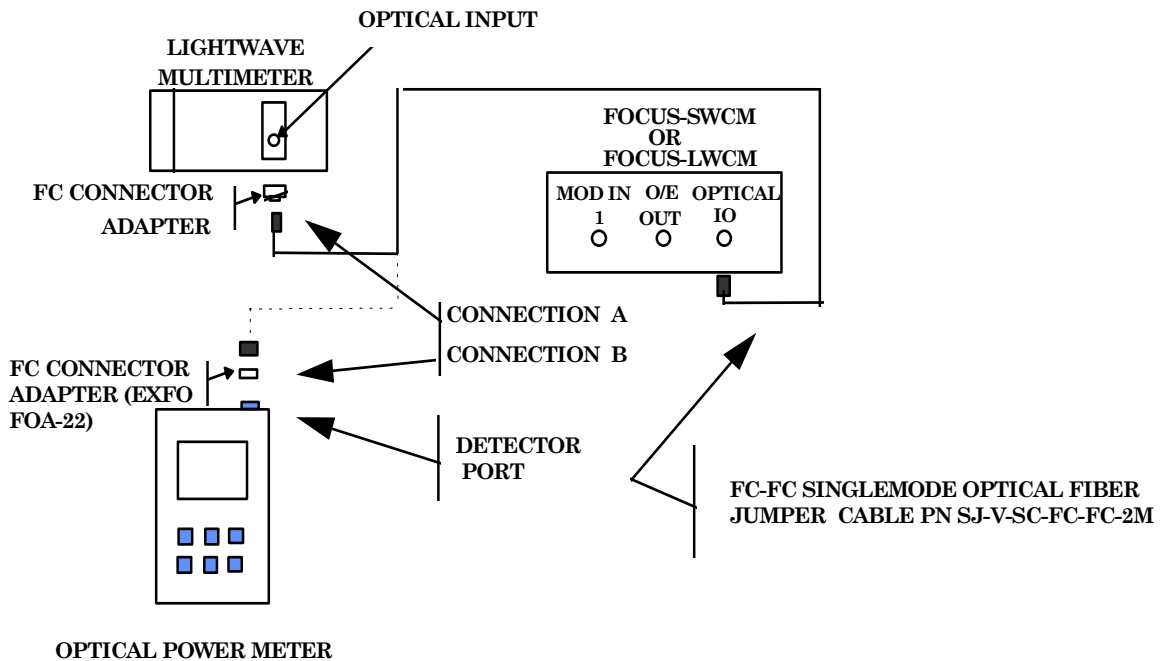

Figure 1. Optical Power Meter test setup.
- (1) Connect equipment as shown in figure 1, CONNECTION A. Connect optical fiber jumper cable from FOCUS-SWCM OPTICAL I-O to FC CONNECTOR ADAPTER attached to OPTICAL INPUT of LIGHTWAVE MULTIMETER (fig. 1).
- (2) Set lightwave multimeter to measure optical power in dBm at 850 nm wavelength.
(3) Adjust FOCUS-SWCM **VAR ATTN 1** knob for **-10.00 dBm** indication on lightwave multimeter display.
(4) Remove cover from OPTICAL POWER METER DETECTOR PORT (fig. 1).
(5) Carefully remove optical fiber jumper cable connector from lightwave multimeter and connect to OPTICAL POWER METER DETECTOR PORT, CONNECTION B (fig. 1).
(6) Press OPM **λ select** pushbutton as necessary to set wavelength to 850 nm.
(7) Press OPM **dBm/W** pushbutton if necessary to measure dBm.
(8) Optical power meter will indicate between -09.65 and -10.35 dBm; if not, perform **b** below.
(9) Press and hold **ref** pushbutton for **00.00** indication on display.
(10) Carefully remove optical fiber jumper cable connector from OPTICAL POWER METER DETECTOR PORT (fig. 1) and connect to LIGHTWAVE MULTIMETER (fig. 1).
(11) Adjust FOCUS-SWCM **VAR ATTN 1** knob for **-15.00 dBm** indication on lightwave multimeter display.
(12) Carefully remove optical fiber jumper cable connector from LIGHTWAVE MULTIMETER (fig. 1) and connect to OPTICAL POWER METER DETECTOR PORT, CONNECTION B (fig. 1).
(13) OPM will indicate between -04.50 and -05.50 dB.
(14) Press **dBm/W** pushbutton to return OPM to measure dBm.
(15) Repeat technique of (1) through (8) above for settings and indications in table 4. OPM will indicate as specified; if not, perform **b** below.